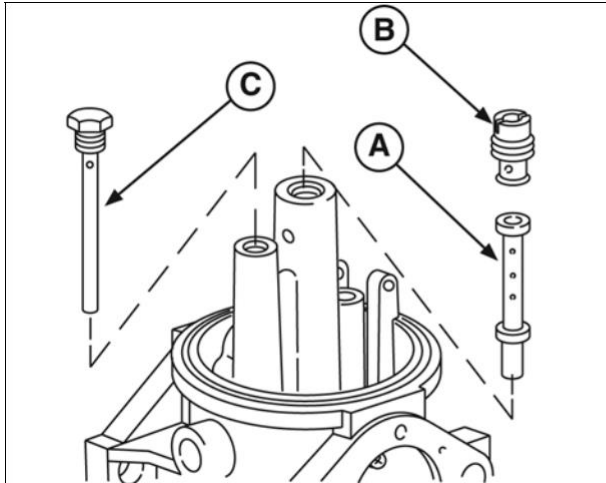

Figure 17
4. Assemble the emulsion tube (A, Figure 17), the fixed high speed jet (B), and the idle jet (C).